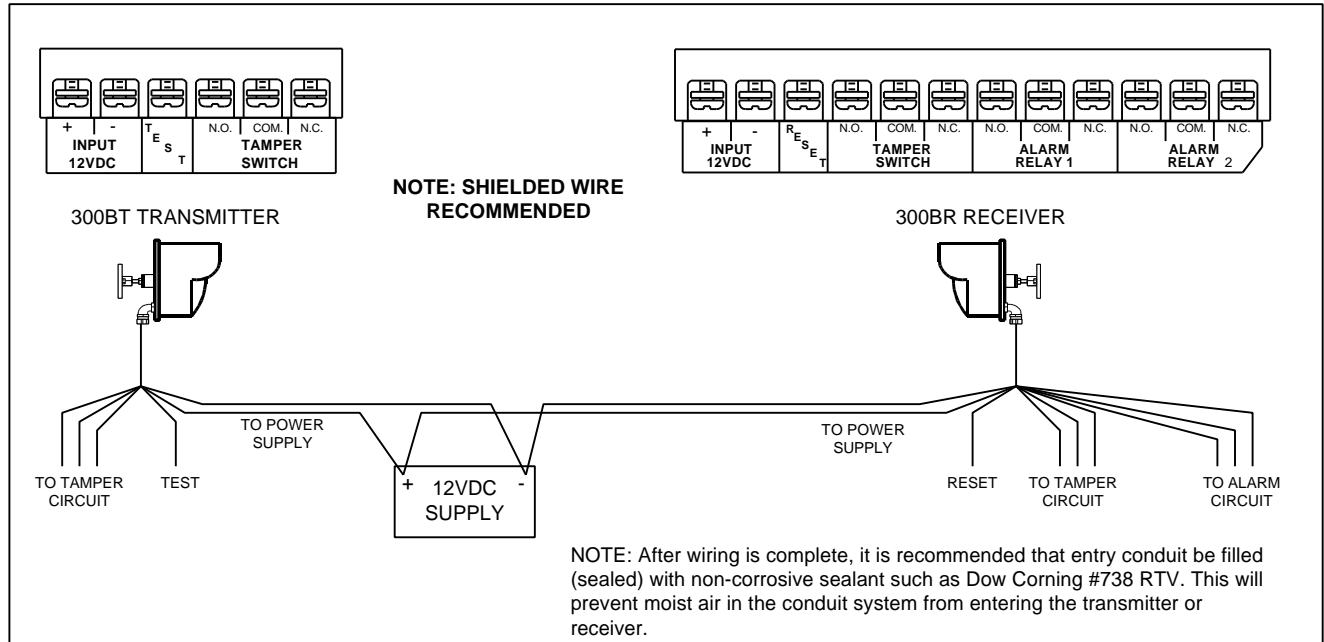

Figure 16 – Wiring Diagram
SOUTHWEST MICROWAVE offers two optional power supply combinations. Model PS50 0.3 Amp Power Supply with Model BA30 6.5AH Battery will power up to five Model 300B T/R Links. Model PS50 may be located either indoors or outdoors in a weatherproof enclosure such as SOUTHWEST MICROWAVE Model BX15. Model PS40 1.6 Amp Power Supply with Model BA20 20AH Battery will power up to 20 Model 300B T/R Links (with proper wiring per Figure 16). Model PS40 may be mounted either indoors or outdoors in a rainproof enclosure such as SOUTHWEST MICROWAVE Model BX20.
3. Make connections to the terminal strip according to labeled terminal functions (See Figure 16.)
3. Make connections to the terminal strip according to labeled terminal functions. (See Figure 16.)
1. To test the Transmitter, the Power Supply voltage (12VDC) must be applied to terminal “TEST” on the Model 300BT. (See Figures 16 and 18).
5. To reset the link to the normal non-alarm condition, 5-15 VDC must be applied to terminal “Reset” on the Model 300BR. (See Figures 16 and 17.)